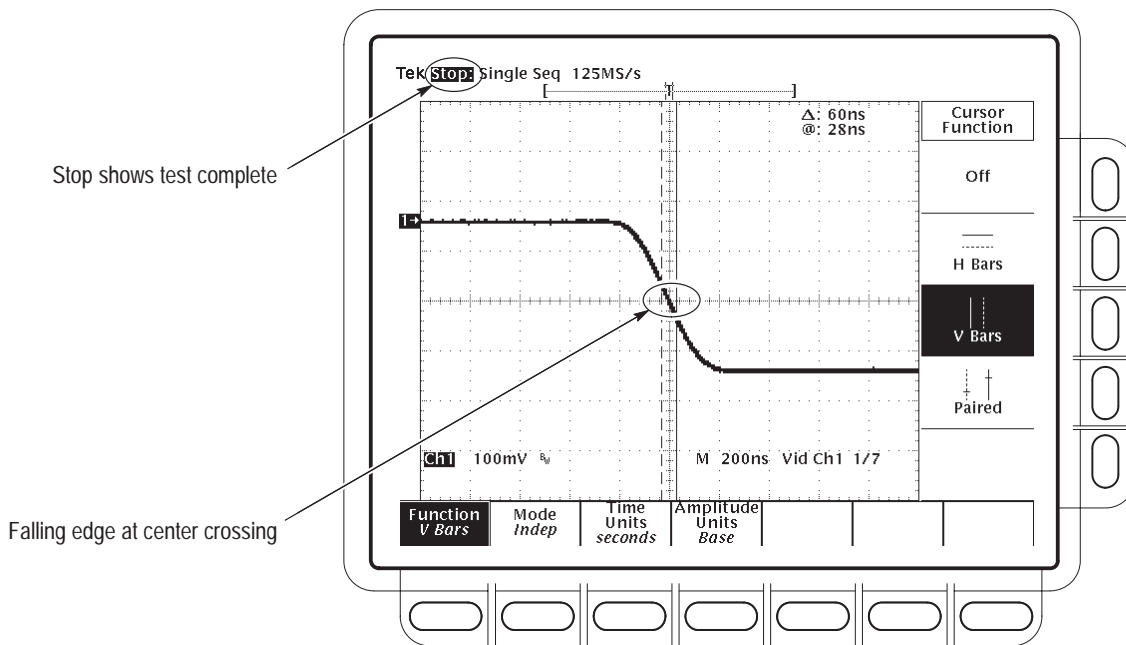

Figure 4–27: Jitter test when completed – TDS 754D shown
- i. CONFIRM that the width of the falling edge of the trace (at the center crossings) falls between the cursors. See Figure 4–27.